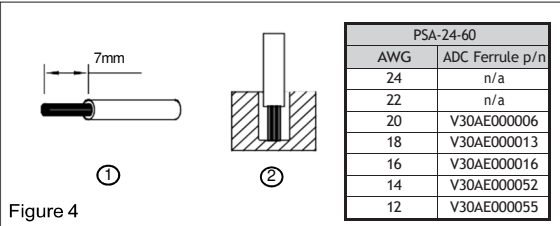

Figure 4
You can use flexible (stranded wire) or solid wire size 24-12 AWG. Torque to 0.392 N·m (3.5 lb in). To secure reliable and shock proof connections, the stripping length should be 7mm [0.28 in] (see Fig. 4 (1)). Please ensure that wires are fully inserted into the connecting terminals as shown in Fig. 4 (2).